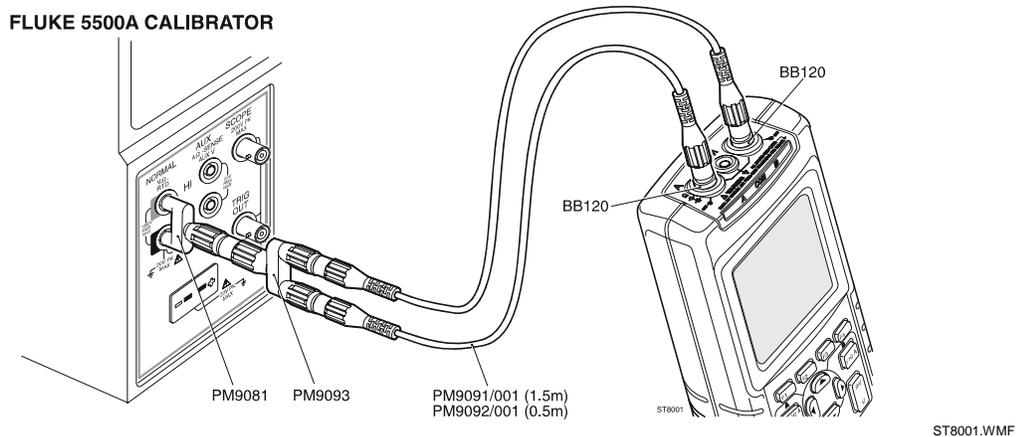

Figure 4-6. Volt Gain Calibration Input Connections <300V
2. Connect the test tool to the 5500A as shown in Figure 4-6.